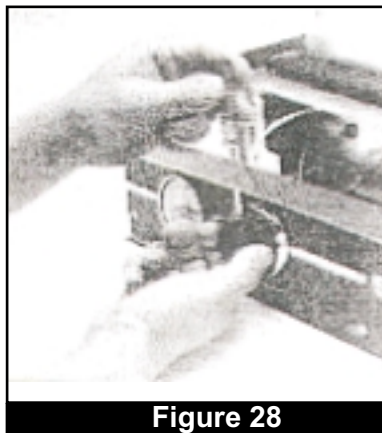

Figure 28
3. Remove thermostat dial from front panel by rotating the dial to expose the set screw and reversing the set screw with a small flathead screwdriver. (Fig. 28)